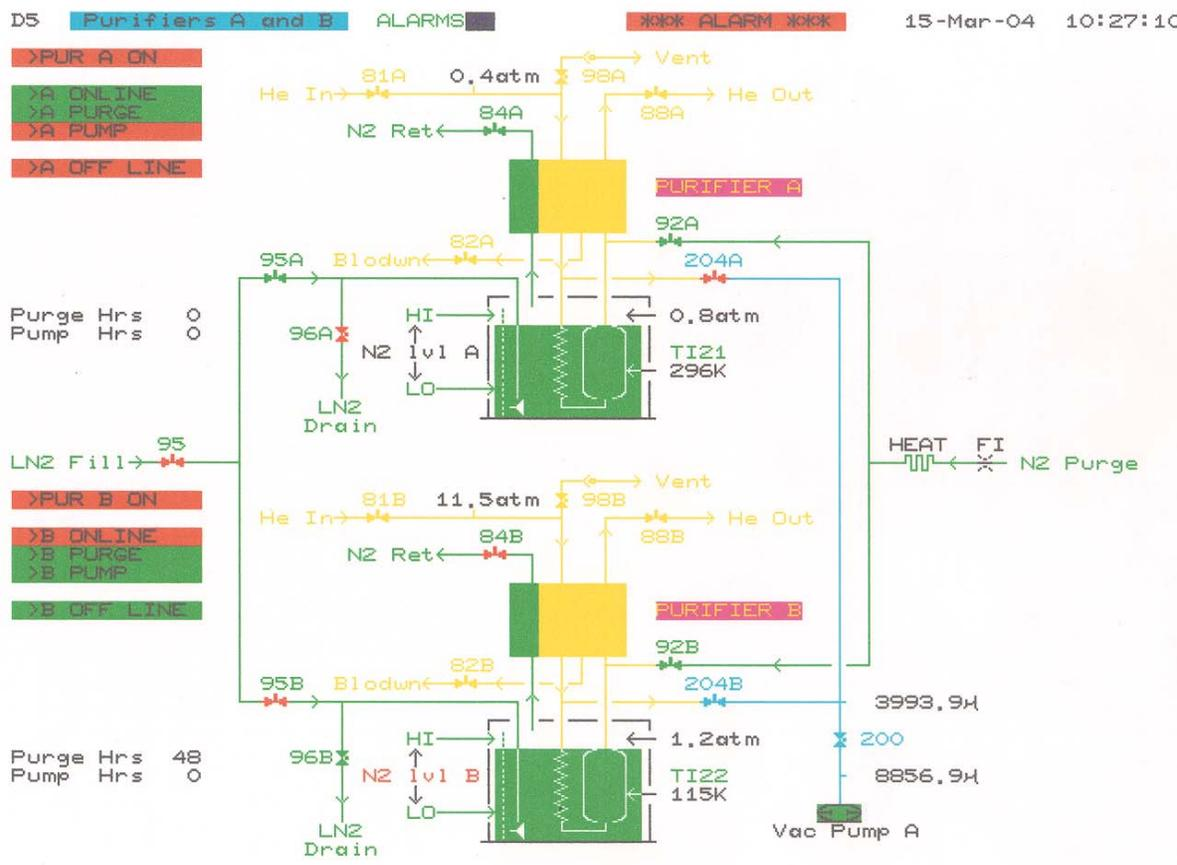

Figure 1. Display of control page D5 for MAGCOOL helium purifiers
5.2.2 At computer CRT, display pg. D5 “Purifiers A and B” as shown in Figure 1. The screen displays flow diagram of the dual purifiers. The selection control manuals are located in the left side of the screen. Put cursor on Manual A or B **PUMP** and hit **OPEN** or **ON** key. Enter start time in Logbook.